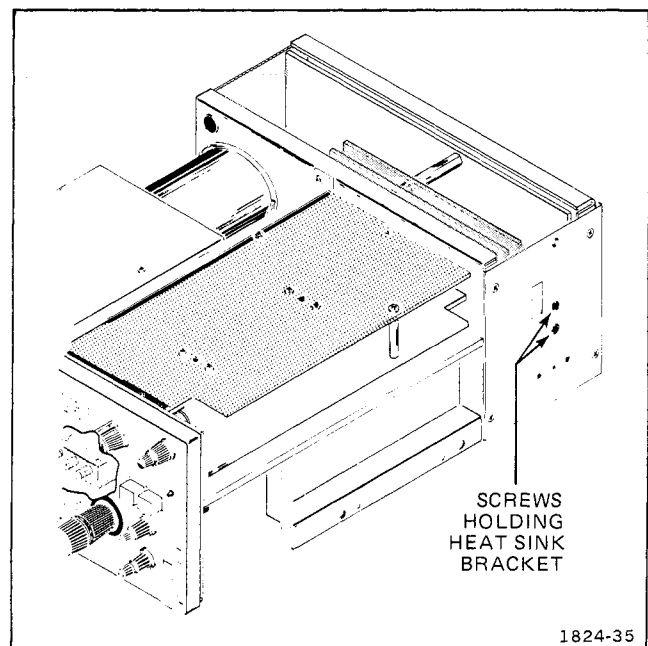

Fig. 4-7. Location of screws holding heat-sink bracket.
e. Remove 2 screws holding the heat sink bracket. See Fig. 4-7.